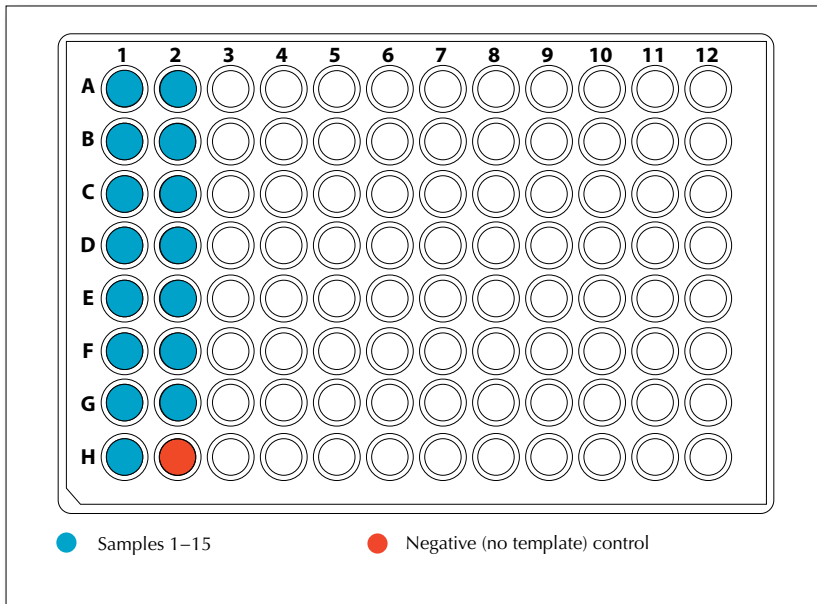

Figure 2. Illustration of a 96-well real-time PCR plate and the sample order necessary for PathoProof[®] Mastitis Major-3 Kit.
An overview of the PathoProof Mastitis Major-3 Kit laboratory workflow is presented in Figure 1 (page 10). Figure 2 (page 17) illustrates the sample order in the real-time PCR setup necessary for PathoProof Mastitis Major-3 Kit. Throughout the procedure, follow the general guidelines detailed in Chapter 5.
3. Prepare a 96-well PCR plate. Always prepare the plate as illustrated in Figure 2. For example, allocate wells A1–G2 for samples 1–15. Fill the wells of the plate in the direction A → H, i.e. first down, then right, then down. **Add 15 µl of the PCR solution into the wells.** If the PathoProof Amplification Standard Major-3 & 4* is included, add 15 µl of the PCR solution into the well allocated for the PathoProof Amplification Standard Major-3 & 4. Always allocate the last well to be pipetted for a negative (no template) PCR control (see Figure 2).
4. **Add 5 µl of the eluate from the DNA extraction protocol (Chapter 6.1) into the wells allocated for the samples.** If the PathoProof Amplification Standard Major-3 & 4 is included, add 5 µl of the standard into the well allocated for it. In the last well allocated for the negative (no template) control, add 5 µl of sterile water or the Elution Buffer (AE) (Figure 2).